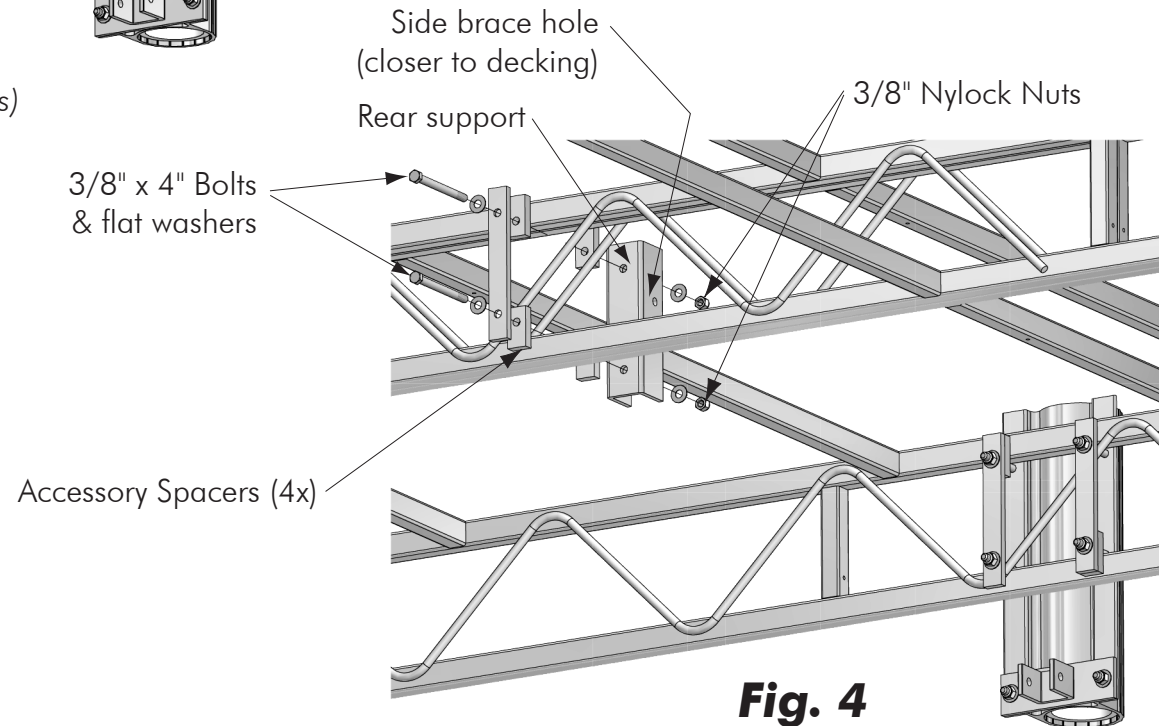

Fig. 4
- For 8 x 12 and 8 x 16 sundecks, attach the rear support to the center dock frame as shown in Fig. 4. Insert the 3/8" x 4 1/2" bolts through the small holes in the attachment plate (not the countersunk side) and slide one accessory spacer on each bolt, unless the webbing is too close, in which case only one spacer is needed. Slide two more spacers on the other side of the dock frame, unless the bolts are too close to the webbing. Slide the rear support over the bolts so the side brace hole is closest to the decking and fasten with 3/8" flat washers and nylock nuts. Torque to 35 ft/lbs.